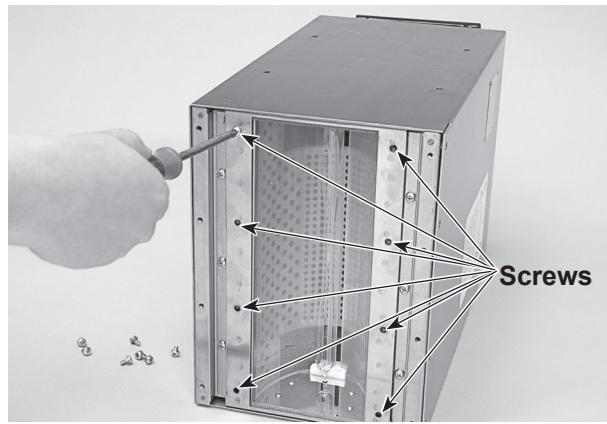

Figure 6-4 RF Screen Removal
2. See Figure 6-4. Turn or place the lamphead assembly so that the entire bulb area is exposed and accessible.